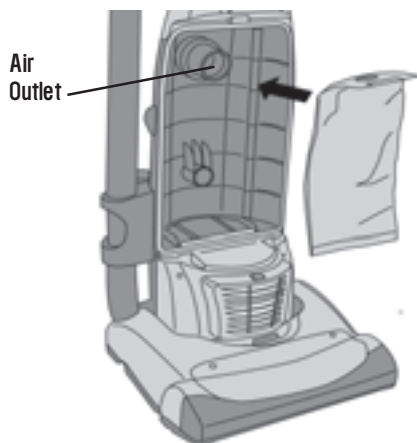

Figure 6a
3. Carefully remove the Dust Bag. Re-insert a new bag, placing the entry hole in the bag over the air outlet. Make sure the Dust Bag is securely fitted in place by pressing the bag in and around all sides of the outlet. (See Figure 6a.)